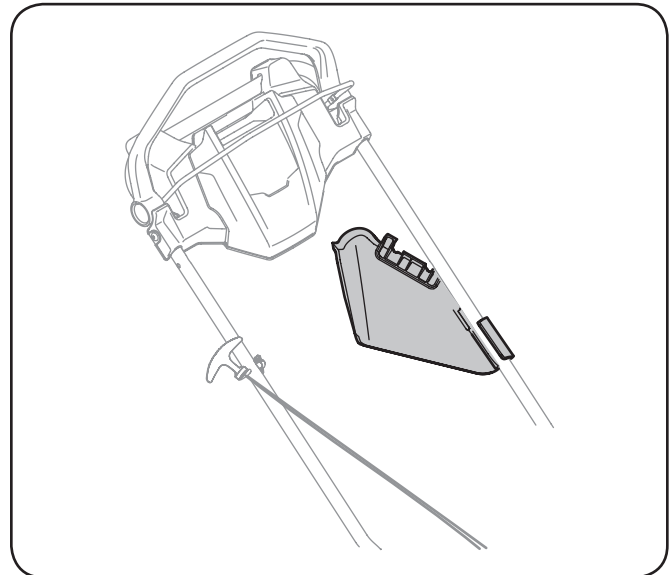

Figure 7-6
- Secure side discharge chute to handle as shown in Figure 7-6.